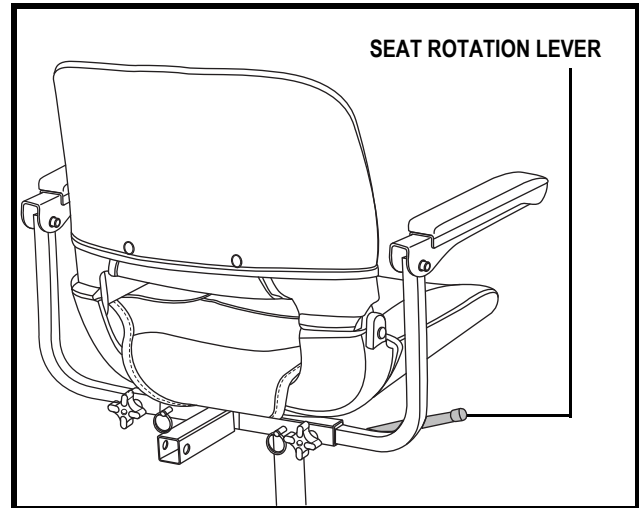

Figure 17. Seat Position Adjustments
1. Push forward on the seat rotation lever to disengage the seat. **See figure 17.**